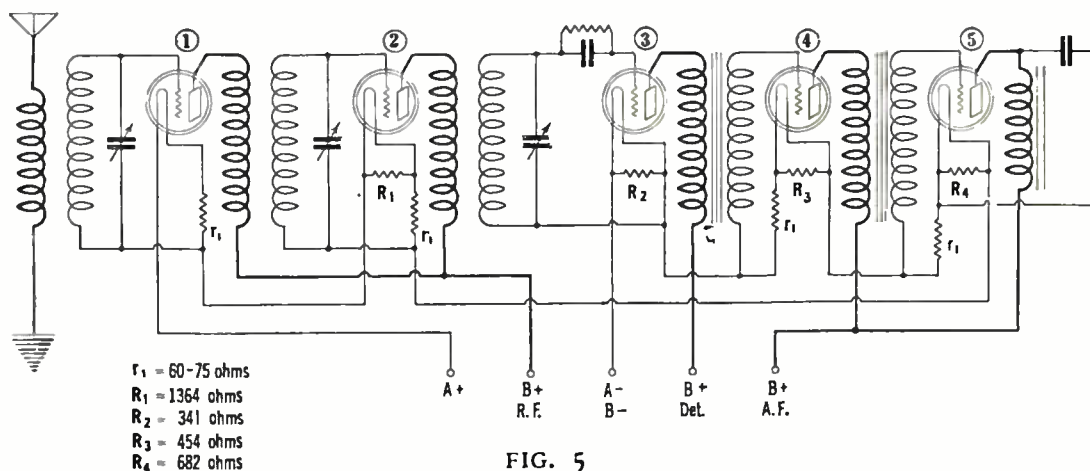

FIG. 5
The means finally adopted in obtaining correct grid biases was to place a 60- to 75-ohm adjustable resistance in series with each filament, for 199 type tubes, as shown in Fig. 5. This method is entirely satisfactory and has been used to some extent in Western Electric receivers. If adjustable resistances are used, the plate current of each tube can be set at the right value when final tests are made on the receiver. Fixed resistances may be used, however, if the constructor does not want to make this refined adjustment. The plate current of each 199 type amplifier tube can be reduced to about 2.2 mA., with 90 volts on the plates.
lined above. From a study of Fig. 5 it may be seen that r.f. currents in tube No. 1 must traverse the filament of tube No. 2; likewise, those currents in tube No. 2 must pass through the filament of tube No. 5. The question might arise whether or not this would be a source of regeneration. It was found, however, that the inclusion of the 60-ohm resistances in the grid circuit of
A very simple and satisfactory method of reducing the filament current overload is to shunt a bypass resistance across each filament, as shown in Fig. 5. These resistances do not all have the same values, and their proper size, for 199 tubes, is determined as follows:-
1. Wire all filaments in series, including a 60-ohm resistor ahead of each amplifier tube for grid bias. (see Fig. 5).
3. Place shunt resistances across each filament, as shown in Fig. 5.